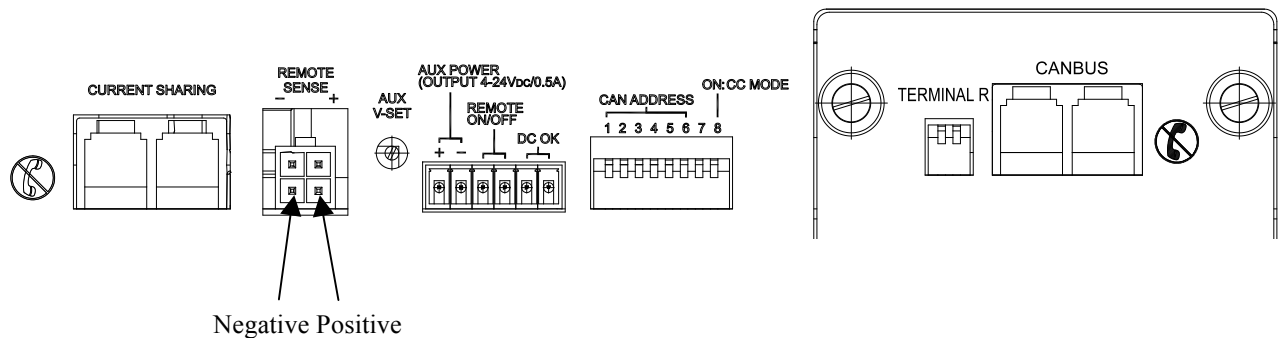

Figure 3-2
- b. Turn the external switch to ON. (Use Open/ Short SW to activate Remote ON/OFF as Figure 3-2 shows.)
- a. Turn the external switch to OFF (see Figure 3-2)
2. Figure 3-2 shows the connection of the Remote Sensing. Using two cables, connect the load positive/negative connector and the Remote Sensing Connector on the rear panel. The cable diameter has to be larger than 30AWG and the withstand voltage should be within specifications.
As Figure 3-2 shows the polarity of the Remote Sensing Wire must be connected correctly, that is the “+” terminal should connect to the “+” of output terminal or its extended cable. Same goes for “-” terminal.